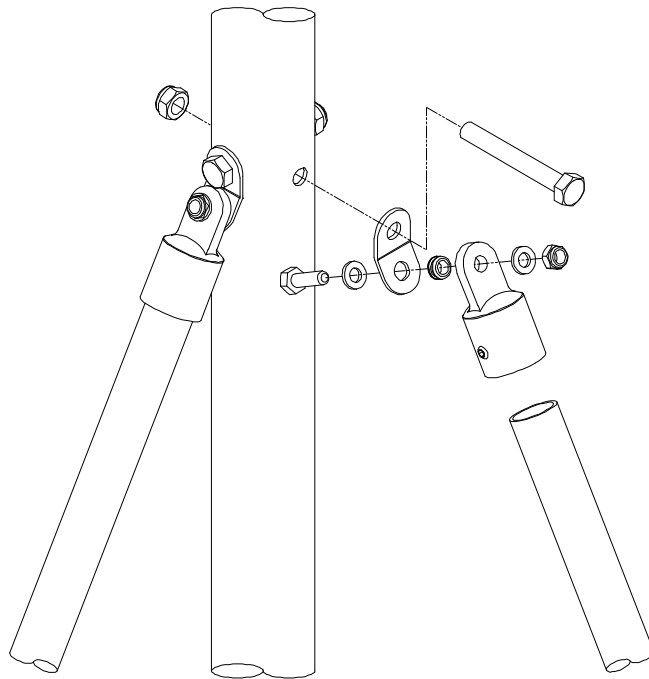

Figure 5
7. Tighten the M6 nyloc nuts on the guy brackets using 10mm spanners.(see Fig.5)